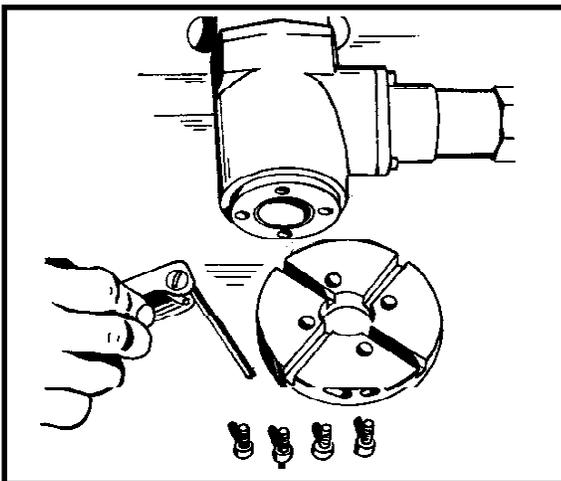

Figure 13
3. Remove the Rotating Head with the provided hex key set. Remove the four Socket Head Screws retaining the Rotating Tool Head (Figure 13).